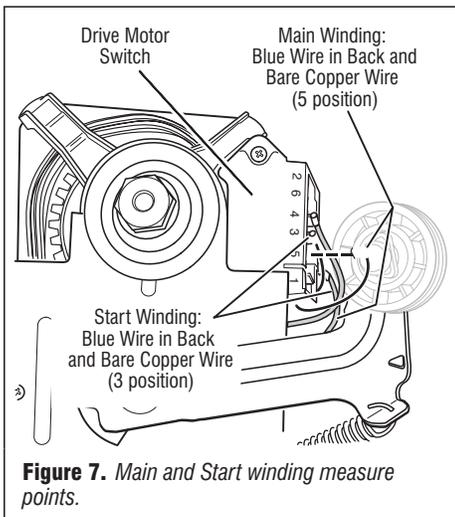

Figure 7. Main and Start winding measure points.
- Remove the bare copper wire terminal from pin 5 of black drive motor switch. See figure 7.
- Using figure 7, check for the resistance values of the motor's Main and Start winding coils as shown in the following table.